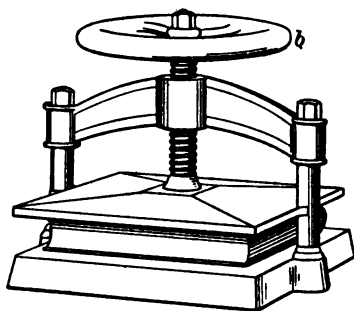

FIG. 91
4. *The Screw*. Fig. 91 shows how the screw may be used to gain intensity of *force*. Here the rate of gain is as the circumference of the wheel  $b$  to the distance